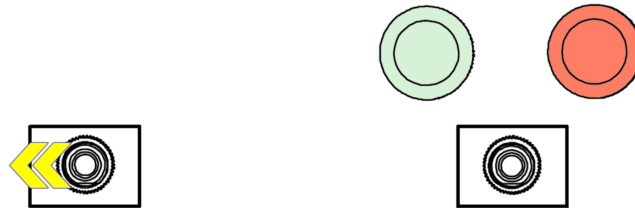

Figure 6: Simulating a Switch
1. Place device selector switch in left position (Figure 6).